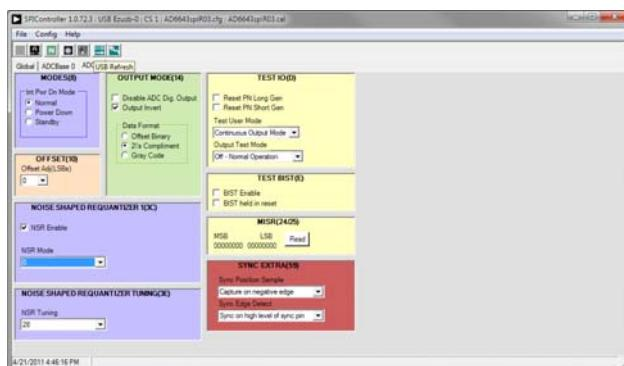

Figure 14. SPI Controller, Example ADC A Tab—NSR Settings for the AD6643
6. If using the noise shaping requantizer (NSR) feature of the AD6643, the settings in the ADC A and/or ADC B pages must be changed (see Figure 14). The NSR Enable checkbox must be selected under the NOISE SHAPED REQUANTIZER 1(3C) section. This enables the circuitry in the AD6643. To select the bandwidth mode, select 0 for 22% and 1 for 33% under the NSR Mode drop-down box in the NOISE SHAPED REQUANTIZER 1(3C) section. Upon selecting the bandwidth mode, select the desired tuning word in the NSR Tuning drop-down box under the NOISE SHAPED REQUANTIZER TUNING(3E) section.